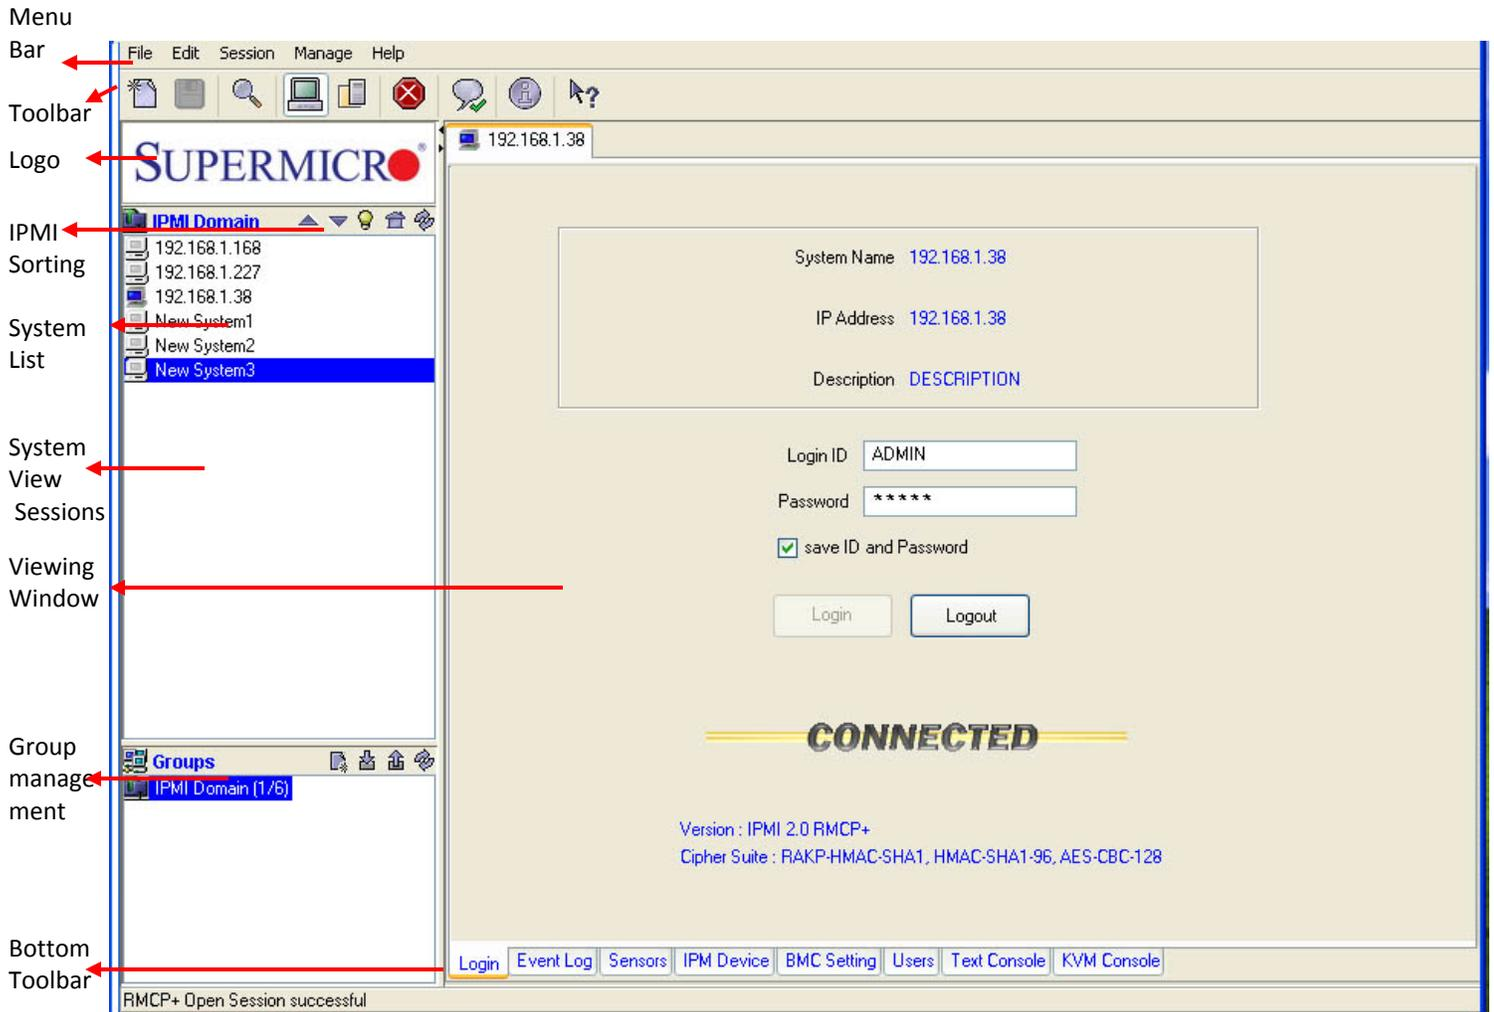
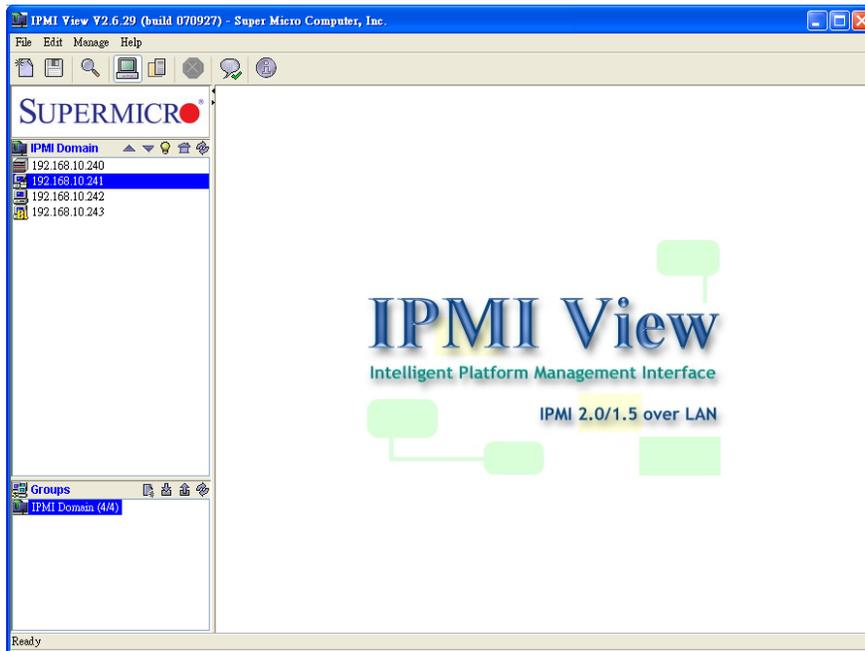

Figure 2-1
Figure 2-2
As shown in Figure 2-1, there are several components in the IPMIView window (Figure 2-2):
- 2) **Toolbar:** contains functions that allow you to execute commands quickly. Click the icons on the toolbar to add a new system, save the current configuration settings, to discover IPMI devices, to access group management, to discontinue the IPMIView section and to access the help menus. See Figure 2-2 for details.